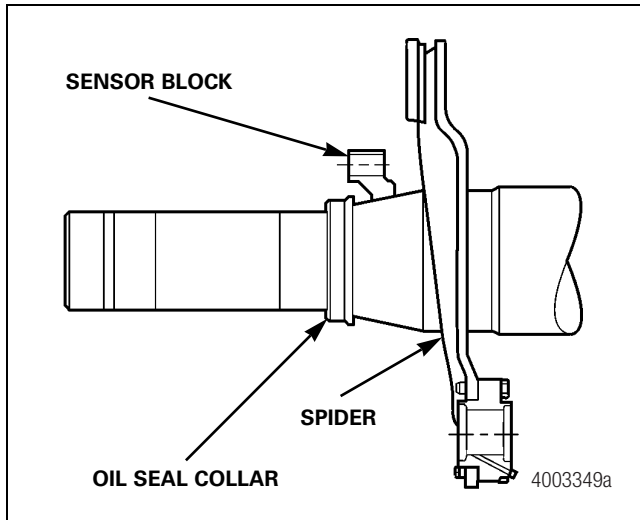

Figure 13.4
- **Sensor Block** — Welded to the axle between the spider and oil seal collar, the sensor block holds the sensor in correct position relative to the tooth wheel. Figure 13.4.